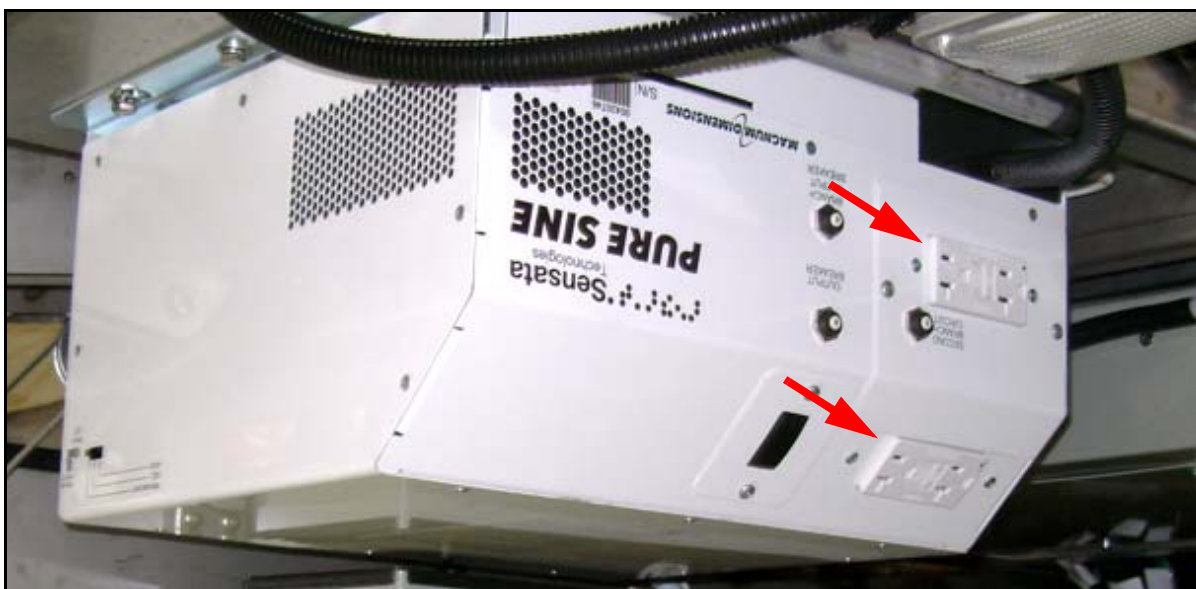

Figure 1. Reference photo of inverter and GFCI outlet locations.
1. Open the applicable baggage bay compartment door and secure in the open position. Locate the inverter (refer to reference photo in Figure 1).
2. Locate the GFCI outlets shown in Figure 1.